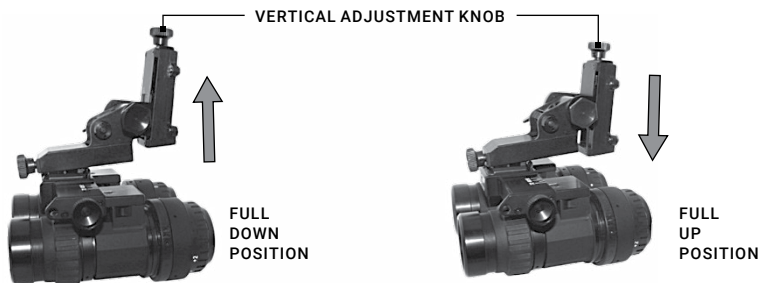

FIGURE 2-7. VERTICAL ADJUSTMENT KNOB
3. Turn the vertical adjustment knob (see Figure 2-7) to center the eyepieces in from of your eyes. Minor readjustment may be needed after adjusting the tilt lever.